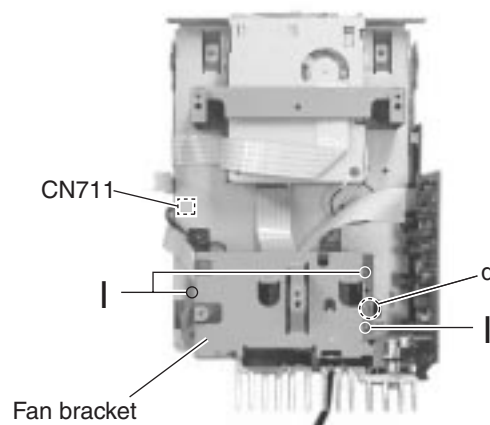

Fig.17
■ Removing the fan (See Fig.17,18)